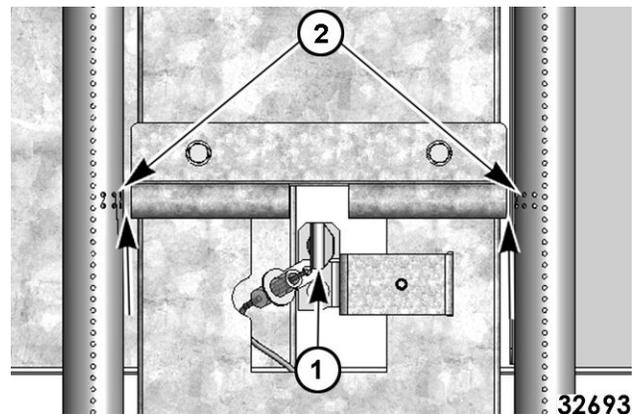

Fig. 16
4. With pilot (1, Fig. 16) centered in flash tube opening, center align ignition ports with both sides of flash tube (2, Fig. 16). Verify 1/8" gap between the end of flash tube and burner on both sides.